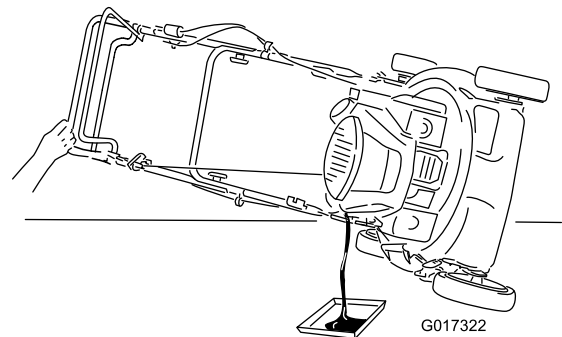

Figure 19
2. Tip the machine onto its side, with the air filter up, then remove the dipstick to drain the used oil out through the oil-fill tube (Figure 19).